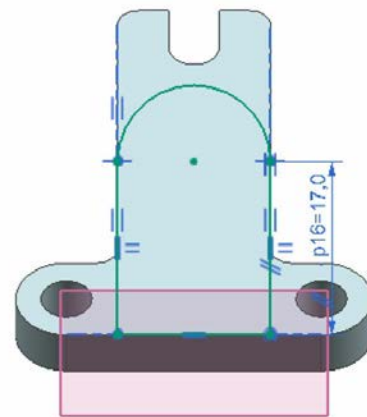

Figure 5-72 Sketch created for the second feature
5. Draw the sketch of the second feature on the newly created datum plane, as shown in Figure 5-72. You need to apply collinear constraints between the lines in the sketch and the edges of the base feature to place the sketch at the desired location.